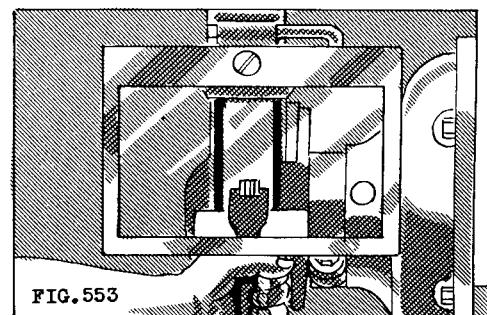

FIG. 553
2. Adjust the glass shields on the machine so that the dressing process can be plainly observed (Fig. 553).